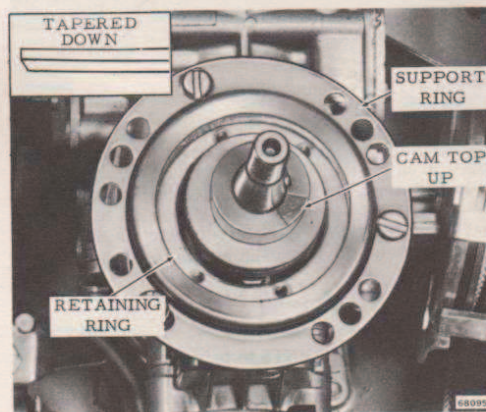

Figure 4-17. Armature Plate
b. Install cam, making certain that side marked "TOP" is up. See Figure 4-17.
c. Apply a coat of OMC Sea-Lube\* Moly Lube to the armature plate support ring, retaining ring, and bushing in armature plate. Install retaining ring with tapered side down, and support ring. Align retaining ring to correspond to the position of the armature plate. See Figure 4-17. DO NOT add oil or grease to the oiler wick on the magneto.